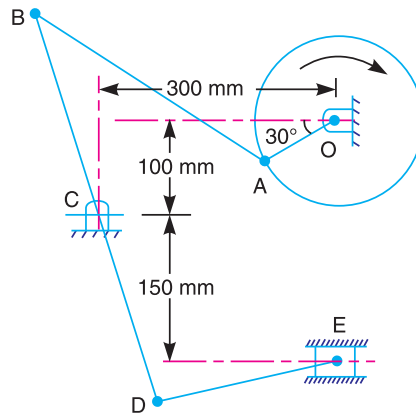

Fig. 8.40
5. In a mechanism as shown in Fig. 8.40, the crank OA is 100 mm long and rotates in a clockwise direction at a speed of 100 r.p.m. The straight rod BCD rocks on a fixed point at C . The links BC and CD are each 200 mm long and the link AB is 300 mm long. The slider E , which is driven by the rod DE is 250 mm long. Find the velocity and acceleration of E .